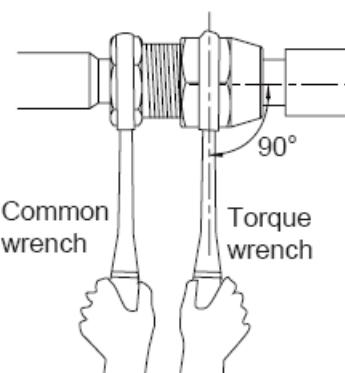

Fig. 4.5
(3) Use torque wrench to twist on the flared nut tightly until the wrench gives out a click sound. (Hold the handle of wrench and make it at right angle to the pipe, as in Fig. 4.5)